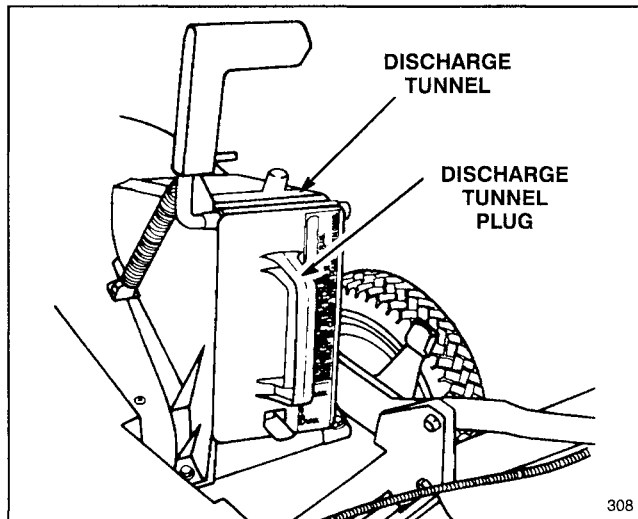

Figure 31
1. Rear Bagging Kit (Model 59174 for self-propelled models, Model 59179 for hand push models)—Install discharge tunnel and rear mounting grass bag to convert Recycler® mower to a rear bagging mower (Fig. 31). Includes discharge tunnel plug.